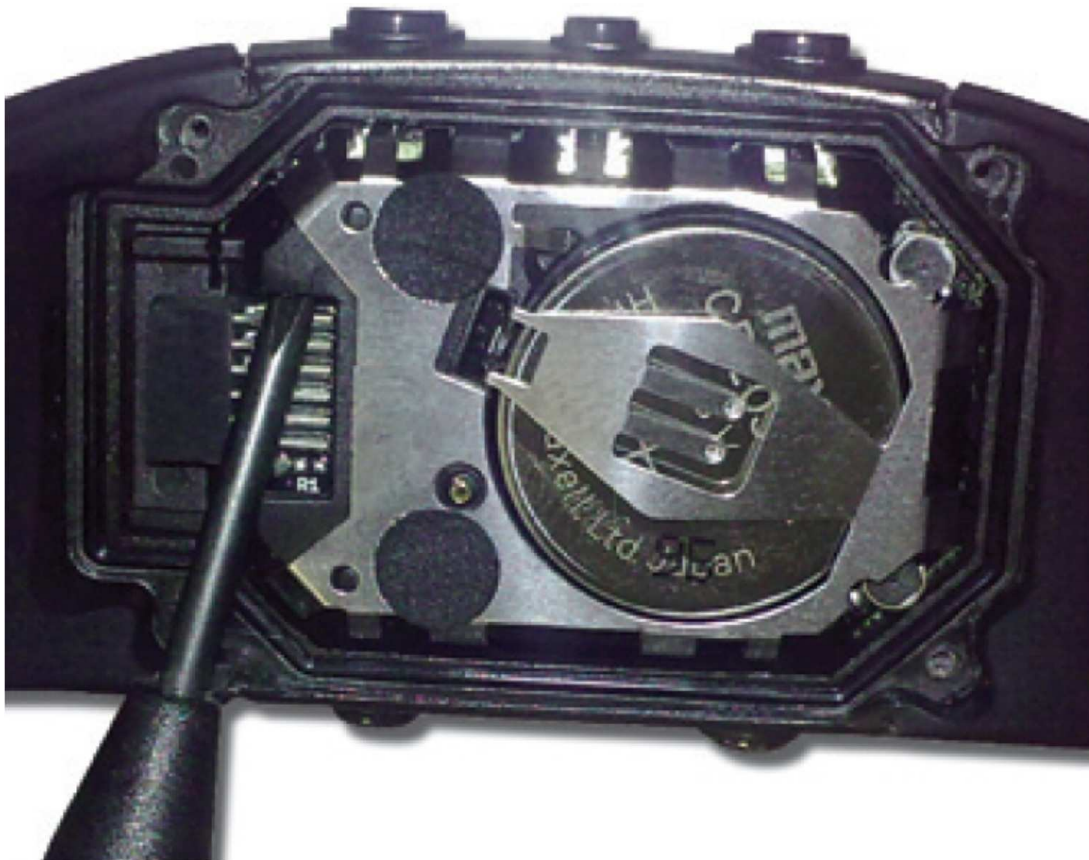

Figure 4-1. Removing Watch Module from Housing
3. Lift out the watch module. Use the screwdriver as shown in Figure 4-1.